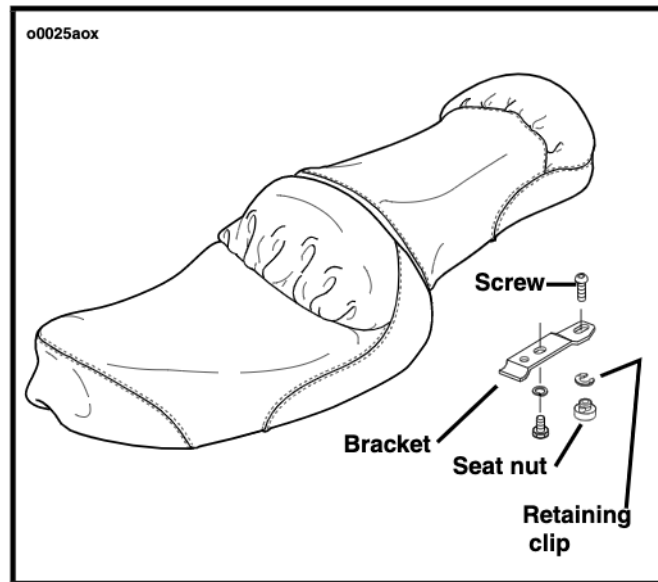

Figure 47. Seat and Mounting Hardware (Typical)
1. See Figure 47. Remove screw from rear seat bracket.